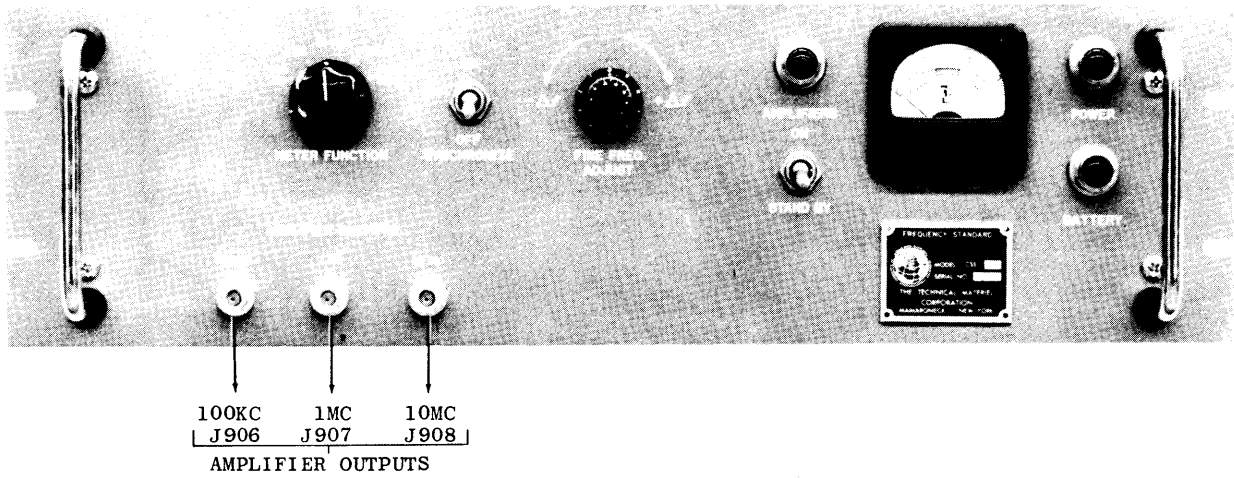

Figure 2-2. Front-Panel Connections
(1) Set the CSS chassis slide mechanism in tracks.
(2) Slide chassis in tracks until rearward release finger engages holes in track.
(3) Make the necessary cable and electrical connections as described in paragraph b.
(4) Press forward release fingers and slide chassis into cabinet; secure front-panel of CSS to rack with screws.
b. ELECTRICAL. - Refer to figures 2-2 and 2-3 and proceed as follows:
(1) Set AMPLIFIERS ON/STANDBY switch S903 at STANDBY.
(2) Connect a-c power cable between MAIN AC jack J910 and a-c power source receptacle. POWER indicator DS901 should light.